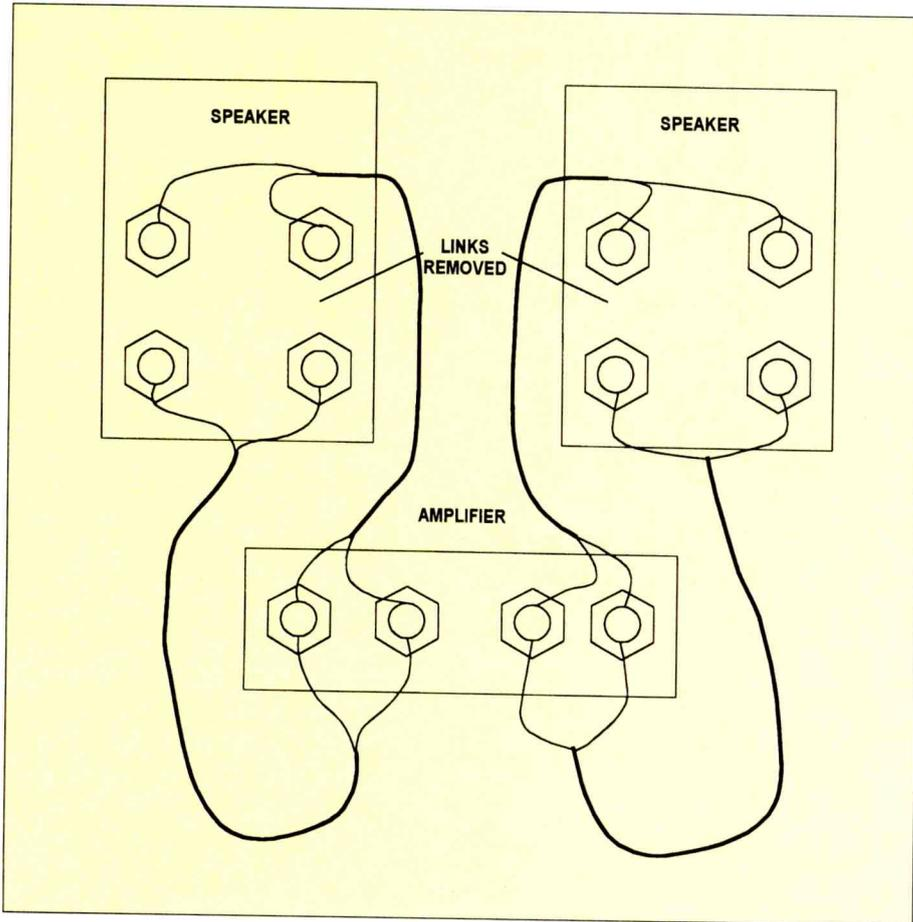

Figure 6. If the link between corresponding terminals of a bi-wire type speaker is removed, the speaker can be bi-wired.
1. Update speaker wire and inter-connect cables. Remember, thicker is not always better. Quality not quantity. Also, bi-wire speakers whenever possible. (Editor’s note: Recently some manufacturers have begun constructing speakers with a second pair of connections terminals, which allows the speaker to be split into two independent sections. Generally, the split is such that one set of terminals connects to the mid and high frequency speakers, and the other set connects to the low-frequency speaker [woofer]. As the speakers come from the factory, there is a connecting link between the terminals so they can be wired normally [Figure 5], or the link can be removed so the speaker can be bi-wired [Figure 6]).